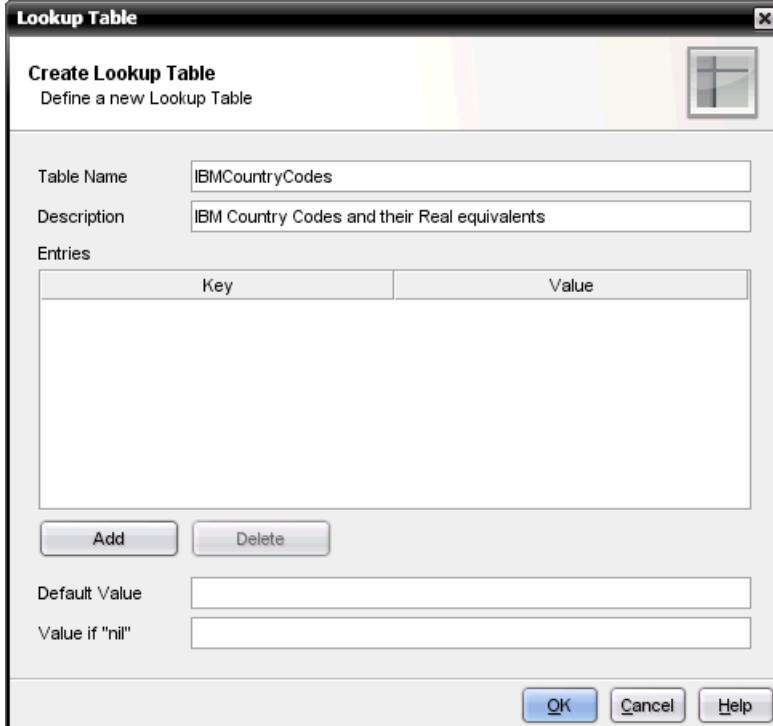

Figure 3-60 Creating a Lookup Table
2. Enter a name and description for the lookup table, as shown in Figure 3-60.